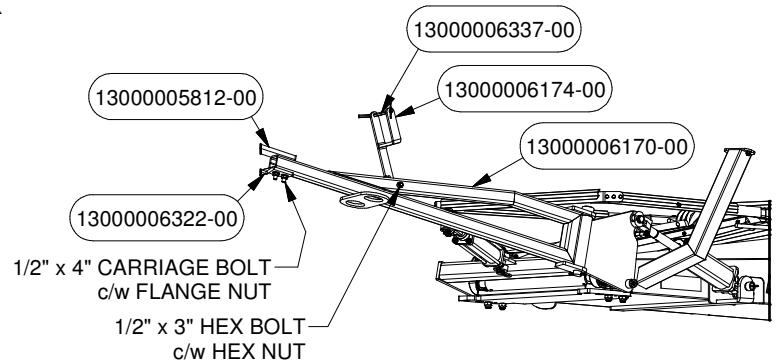

FIGURE 3
- Attach the Draw Bar Plates PN# 5812 and PN# 6322 and the PTO Tube Holder PN# 6174 and Pin PN# 6337 to the Swing Arm PN# 6170 using Bolts c/w Nuts found in Bolt Bag PN# 6682 and PN# 6683. See Figure 3 for details. Attach Safety Chains PN# 7301.